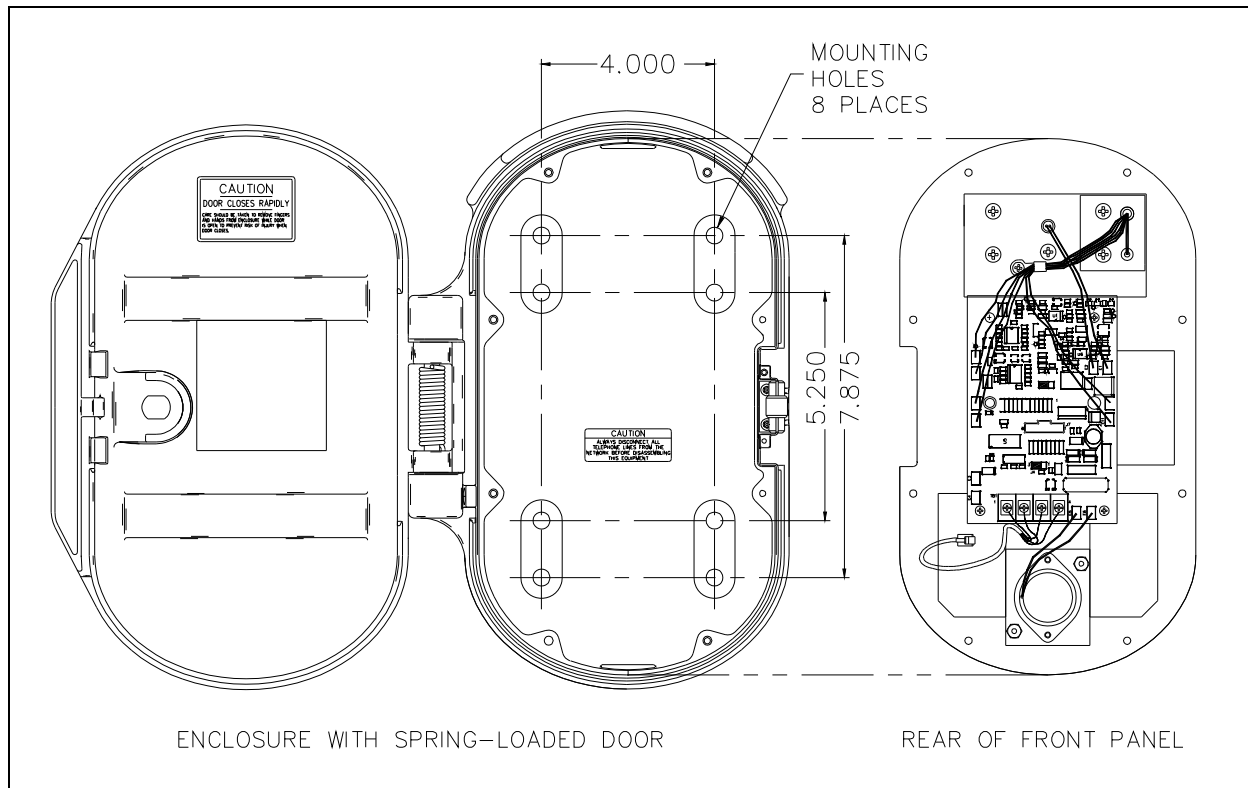

Figure 5. Model 227-001 Outline and Mounting Drawing
2. There are eight mounting holes in the back of the enclosure in two 4-hole patterns. Determine which hole pattern will be used for mounting. See Figure 5.